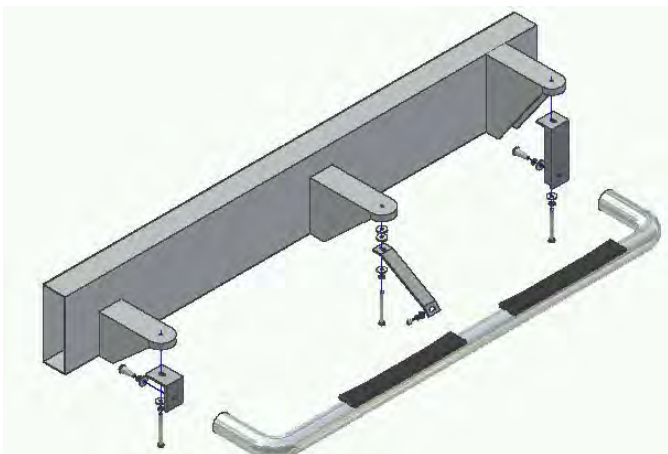

Figure 1.1 – Driver-Side Full Assembly View
1. Begin installation by working on driver side of the vehicle (see Figures 1.1 - 1.4).